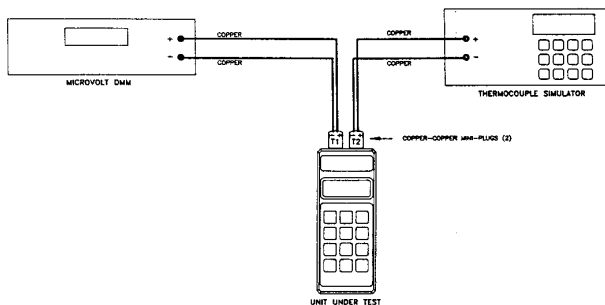

Figure 11. Calibration Setup, Copper Mode.
3. Calibration cables, per Figures 11, 12, 13.